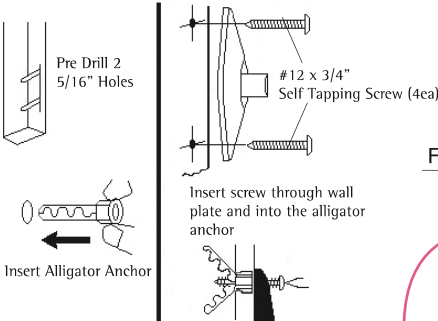

Figure 8
- Drill holes in the drywall using a 5/16" drill bit (Figure 8).
- Once the holes are drilled, insert the alligator anchor into the holes. Make sure the anchor is flush with the wall and/or ceiling surface (Figure 8).
- With the anchors in place, mount the wall plates using the #12 x 1-3/4" self tapping screws (Figure 8).